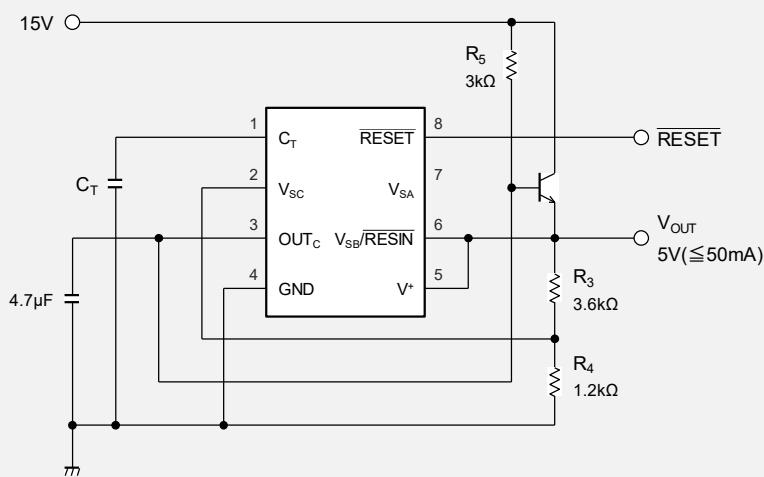

Fig. 12-1 Reference Voltage output and Voltage drop monitoring (e.g. 5V output, 5V monitoring)
- The reference voltage V_{OUT} is calculated as following formula. In case of resistor value in Fig.12-1, the reference voltage V_{OUT} is about 5.0V
5V Reference voltage V_{OUT} is generated by V_{SC} (COMP_C) and feedback resistors R_2 , R_3 , and its 5V is monitored by V_{SA} (COMP_A). Unlike Fig.12-1, 5V output cannot supply large current.